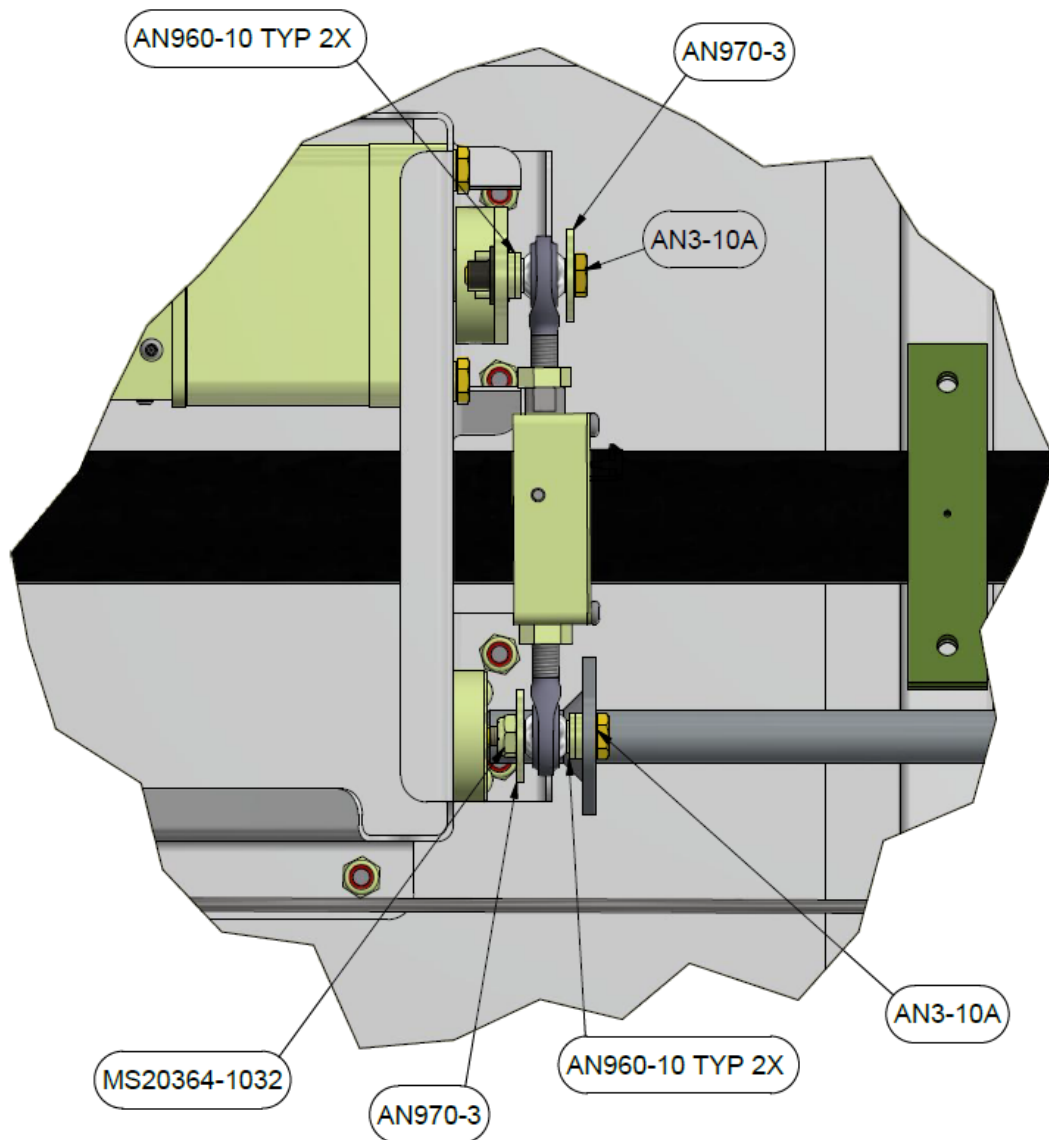

Figure 2-21
- 1.34. Install the link sensor assembly as shown in Figure 2-21. Torque fasteners to 20-25 in-lb.